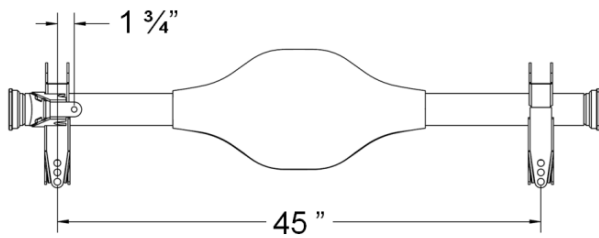

Figure 2- Axle Bracket Locations
- 5.) If you purchased a complete rear axle housing with the brackets all ready installed, you can trial install it now. If you are installing the brackets on your own housing, note that the bottom brackets locate the top brackets as well as the Panhard bar. The coil-over brackets are located 45" apart. They are centered equal distance from the outer ends of the housing, see **Figure 2**.